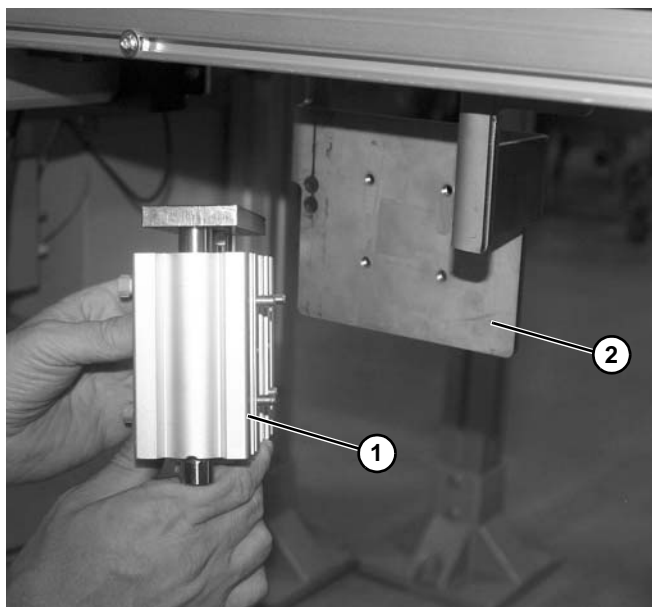

Figure 128
11. Remove lift cylinder (Figure 128, item 1) from mounting bracket (Figure 128, item 2).